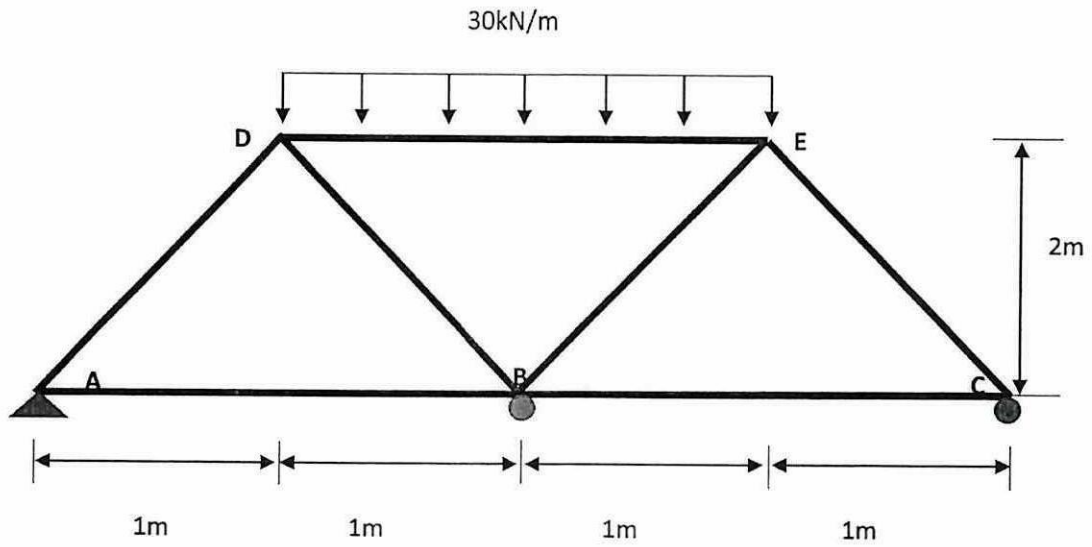

Figure Q1
- Q1** **Figure Q1** shows a truss that is pinned supported at A and roller supported at B and C. The truss is subjected to uniform load of 30 kN/m between D and E. The cross-section area for the truss member is 400 mm2 and the Young's Modulus for all truss members is 200 kN/mm2.